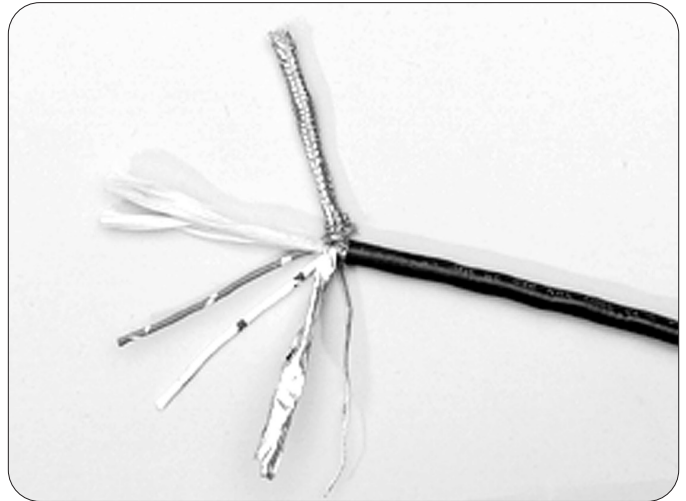

Figure 3.13: Separating cable parts
2. Separate the cable parts. Unbraid the braided shield and peel back the foil shield to the same point where the outer jacket was removed, as shown in Figure 3.13.